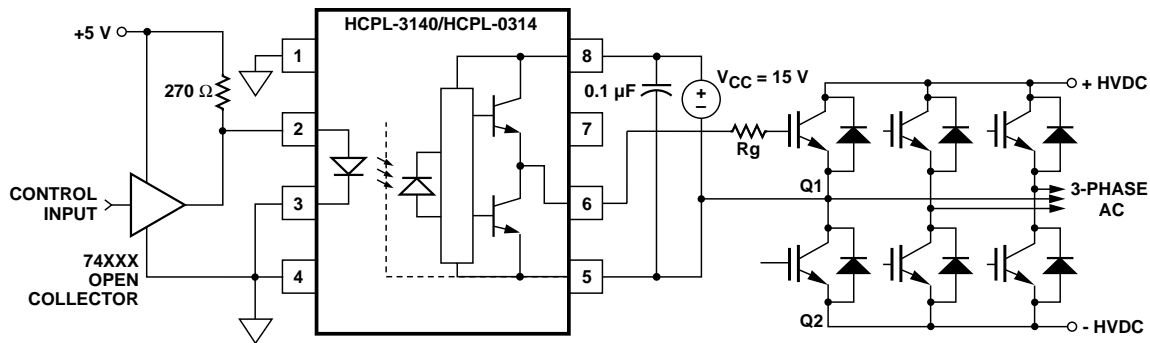
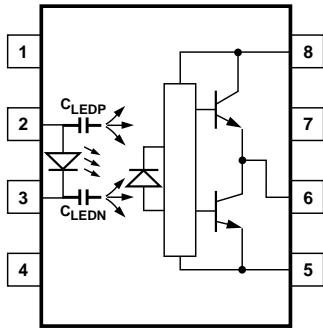
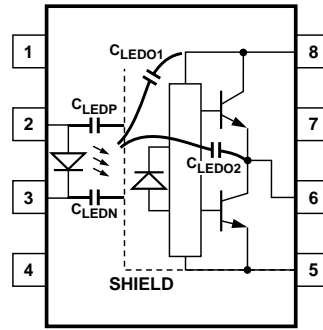

Figure 19. Recommended LED drive and application circuit for HCPL-3140/HCPL-0314.
Figure 21. Optocoupler input to output capacitance model for unshielded optocouplers.
Figure 22. Optocoupler input to output capacitance model for shielded optocouplers.
HCPL-3140/HCPL-0314 on a small PC board directly above the IGBT) can eliminate the need for negative IGBT gate drive in many applications as shown in Figure 19. Care should be taken with such a PC board design to avoid routing the IGBT collector or emitter traces close to the HCPL-3140/HCPL-0314 input as this can result in unwanted
**Step 1:** Calculate Rg minimum from the IOL peak specification. The IGBT and Rg in Figure 19 can be analyzed as a simple RC circuit with a voltage supplied by the HCPL-3140/HCPL-0314.
where  $K_{ICC} \cdot Qg \cdot f$  is the increase in ICC due to switching and  $K_{ICC}$  is a constant of 0.001 mA/(nC\*kHz). For the circuit in Figure 19 with IF (worst case) = 10 mA, Rg = 32 Ω, Max Duty Cycle = 80%, Qg = 100 nC, f = 20 kHz and TMAX = 85°C:
Without a detector shield, the dominant cause of optocoupler CMR failure is capacitive coupling from the input side of the optocoupler, through the package, to the detector IC as shown in Figure 21. The HCPL-3140/HCPL-0314 improves CMR performance by using a detector IC with an optically transparent Faraday shield, which diverts the capacitively coupled current away from the sensitive IC circuitry. However, this shield does not eliminate the capacitive coupling between the LED and opto-coupler pins 5-8 as shown in Figure 22. This capacitive coupling causes perturbations in the LED current during common mode transients and becomes the major source of CMR failures for a shielded optocoupler. The main design objective of a high CMR LED drive circuit becomes keeping the LED in the proper state (on or off) during common mode transients. For example, the recommended application circuit (Figure 19), can achieve 10 kV/μs CMR while minimizing component complexity.
supplied by the LED, and it is not recommended for applications requiring ultra high CMR1 performance. The alternative drive circuit which like the recommended application circuit (Figure 19), does achieve ultra high CMR performance by shunting the LED in the off state.